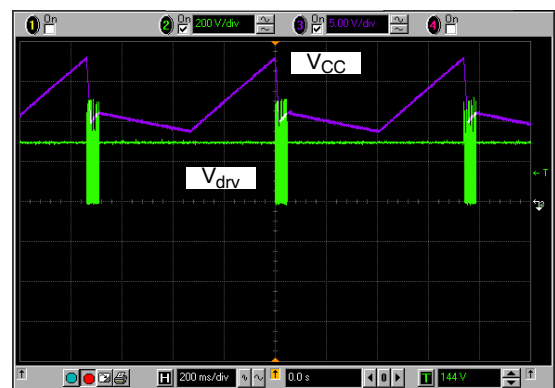

Figure 18. Hiccup Occurs with the B Version Only, the A Version Being Latched
2. B version: the circuit stops its output pulses and the auxiliary V_{CC} decreases via the controller own consumption ($\approx 600 \mu\text{A}$). When it touches the $V_{CC(min)}$ point, the circuit re-starts and attempts to crank the power supply. If it fails again, an hiccup mode takes place (Figure 18).